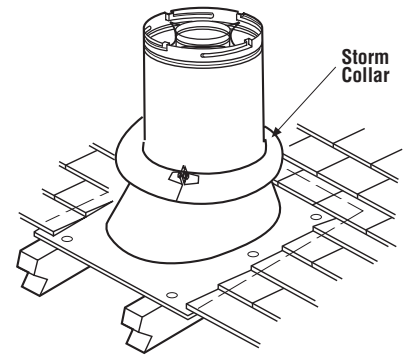

Figure 26
J. Install the storm collar - Install the storm collar, supplied with the flashing, over the vent/flashing joint. See *Figure 26*. Loosen the storm collar screw. Slide collar down until it meets the top of the flashing. Tighten the adjusting screw. Apply non-combustible caulking or mastic around the circumference of the joint to provide a water tight seal.